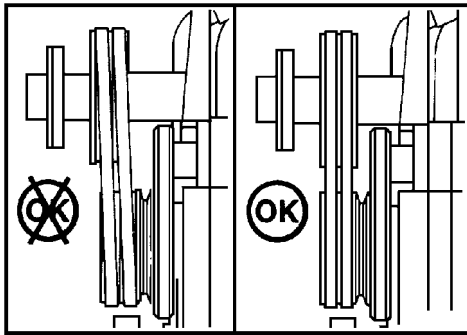

Figure 6.5-20
- Pulley misalignment **must not** exceed 1/16 inch for each 12 inches (6mm for each meter) of distance between pulley centers (Figure 6.5-20).